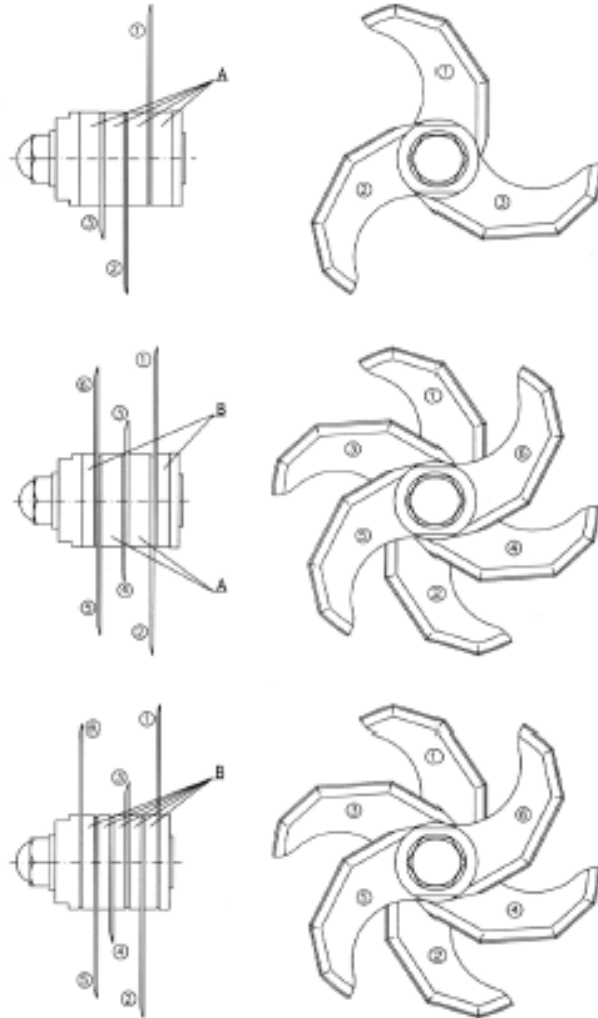

Fig. 2 - Different Knives Assembly Systems
- Remove the knives and the compensating rings separately, remembering first to make a note of their order and position (Pg. 12, Fig. 2).